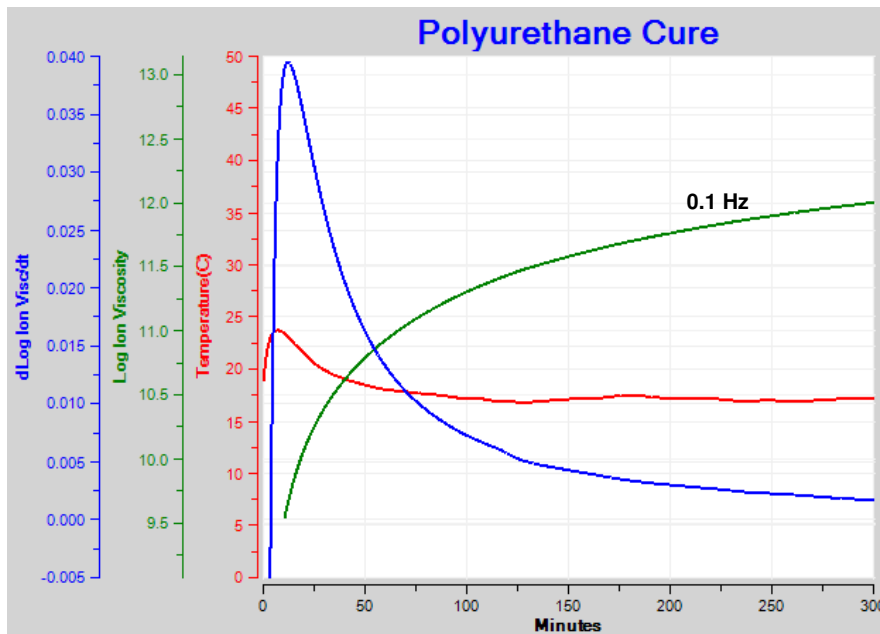

Figure 12-10
- Do use a single, optimum frequency—if possible—for ion viscosity response for entire cure, as shown in Figure 12-10